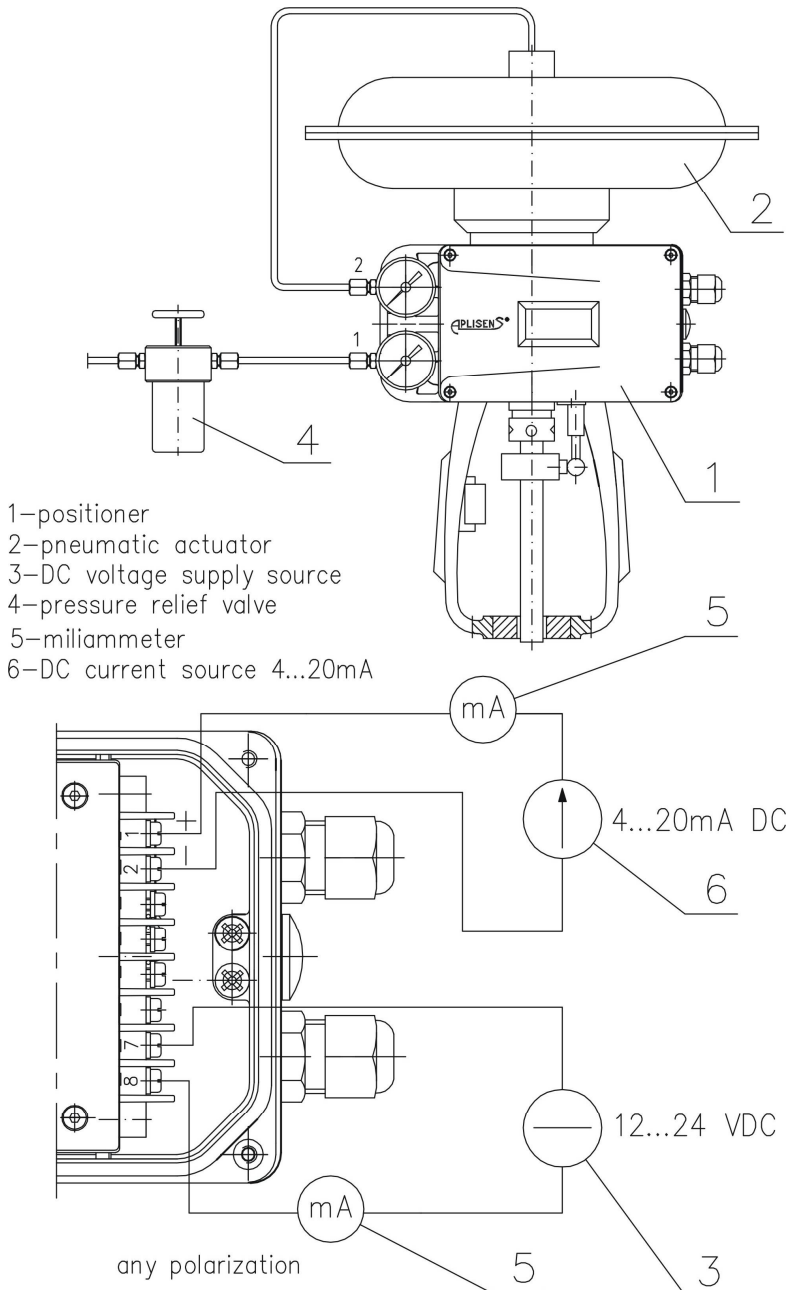

Fig. 17. Diagram of measuring circuit for starting APIS-1X0... positioner (single-acting membrane actuator)
- a) Positioner APIS-1X0-... installed on the actuator acc. to point 10.2...10.4. should be connected with the measuring system acc. to the diagram presented in Fig. 17.
- e) Current programming device item 6 – e.g.: Fig. 17 decrease input signal to 4 ± 0.01 mA; The following will appear on the display e.g.: